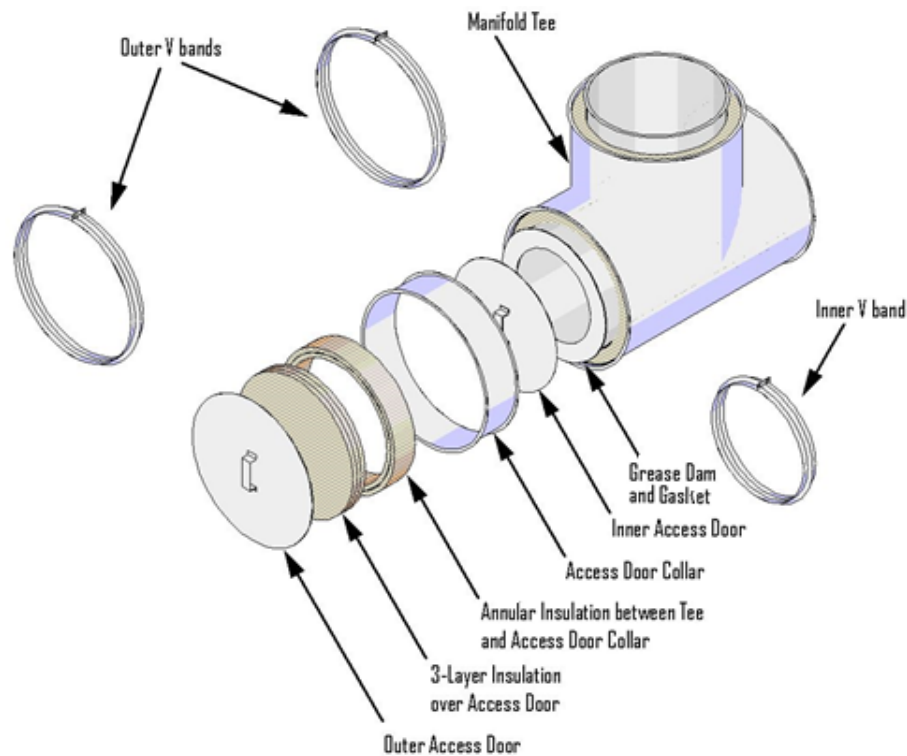

Figure 2. Access Door Assembly
- B. ACCESS DOOR – When required, use the duct manufacturer’s manifold tee and access door (tee cap) assembly (see Figure 2). Apply a 1/4 in. continuous bead of sealant (Item 2A) to the inner flange of the tee on the side where access door is to be located. Center the supplied grease dam over the opening of the tee. Verify that grease dam is sealed to the tee flange by applying pressure. Remove excess sealant (Item 2A). Apply supplied Garlock Blue-Gard® 3000 gasket to grease dam with a 1/4 in. continuous bead of sealant (Item 2A) applied to the grease dam 1 in. from the outside edge. When